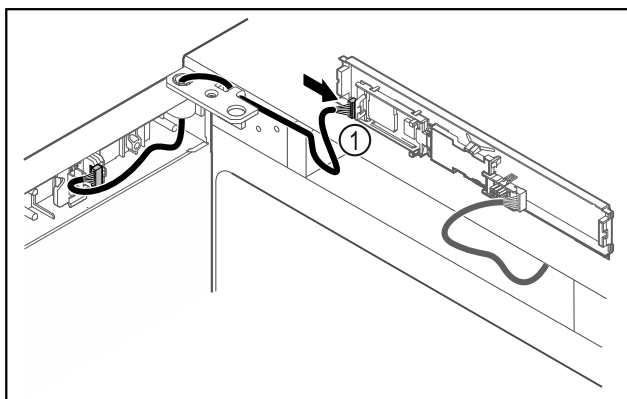

Fig. 45
- ▶ Piespraudiet spraudni Fig. 45 (1) pie shēmas plates.